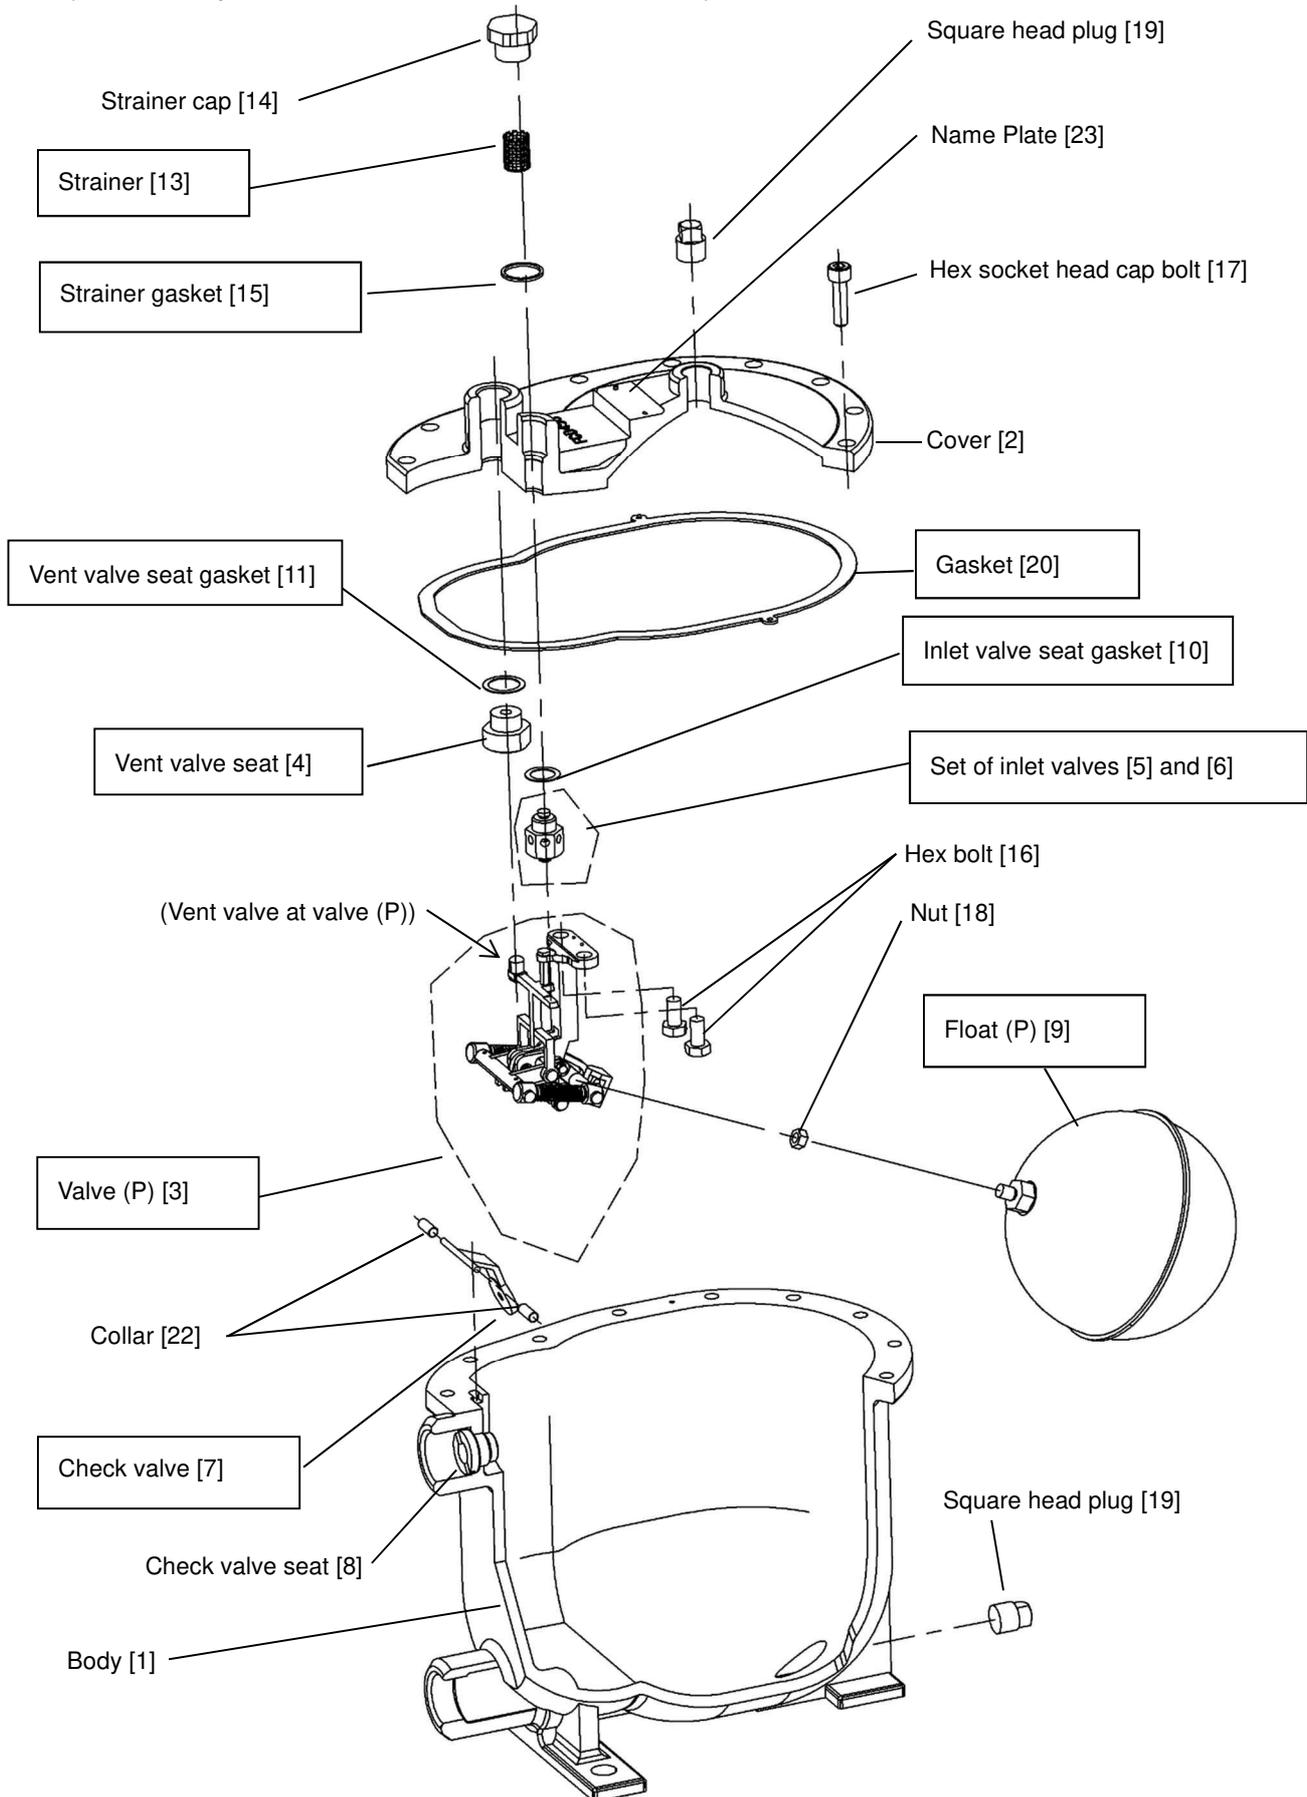

Fig. 6. Exploded view
8.3 Troubleshooting (See 6.1 Piping example for marks and numbers of stop valves, and see Fig. 6 for the numbers inside the brackets [.].)
8.4.2 Disassembly method (See Fig.6)
8.4.3 Assembly method (See Fig.6)